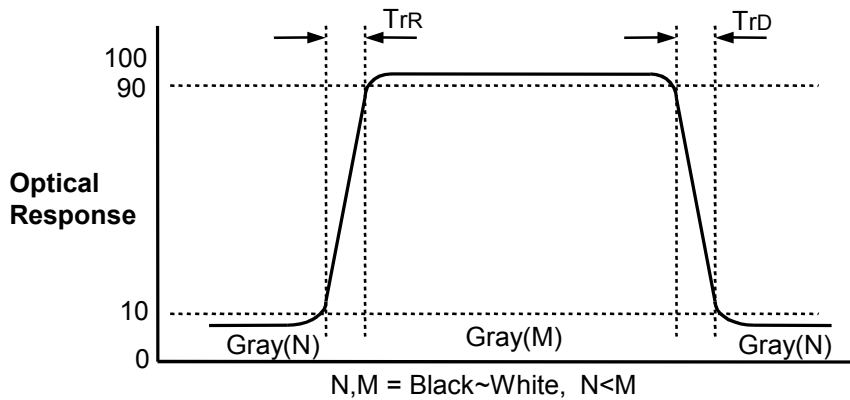

FIG. 11 Response Time
4. Response time is the time required for the display to transit from G(255) to G(0) (Rise Time, Tr_R) and from G(0) to G(255) (Decay Time, Tr_D). For additional information, see the FIG. 11. ($N < M$)